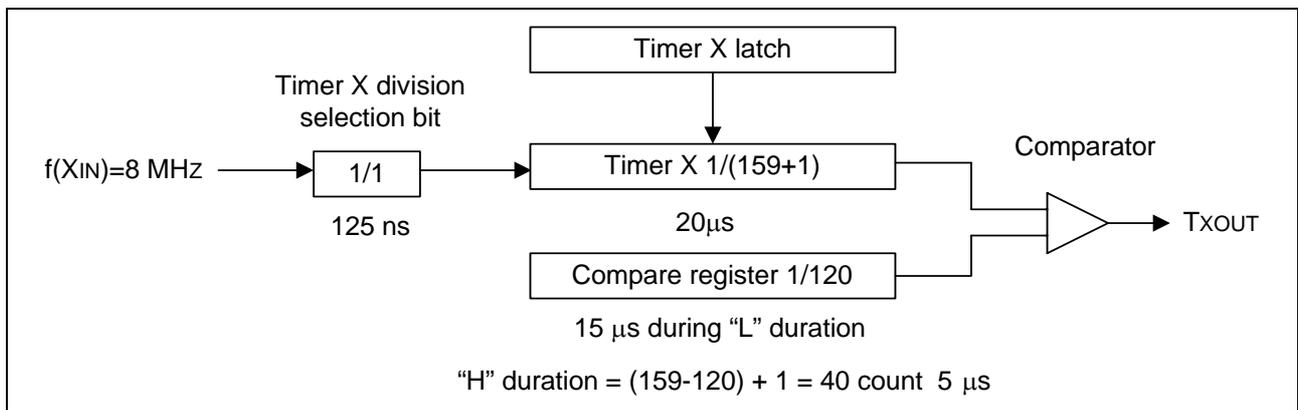
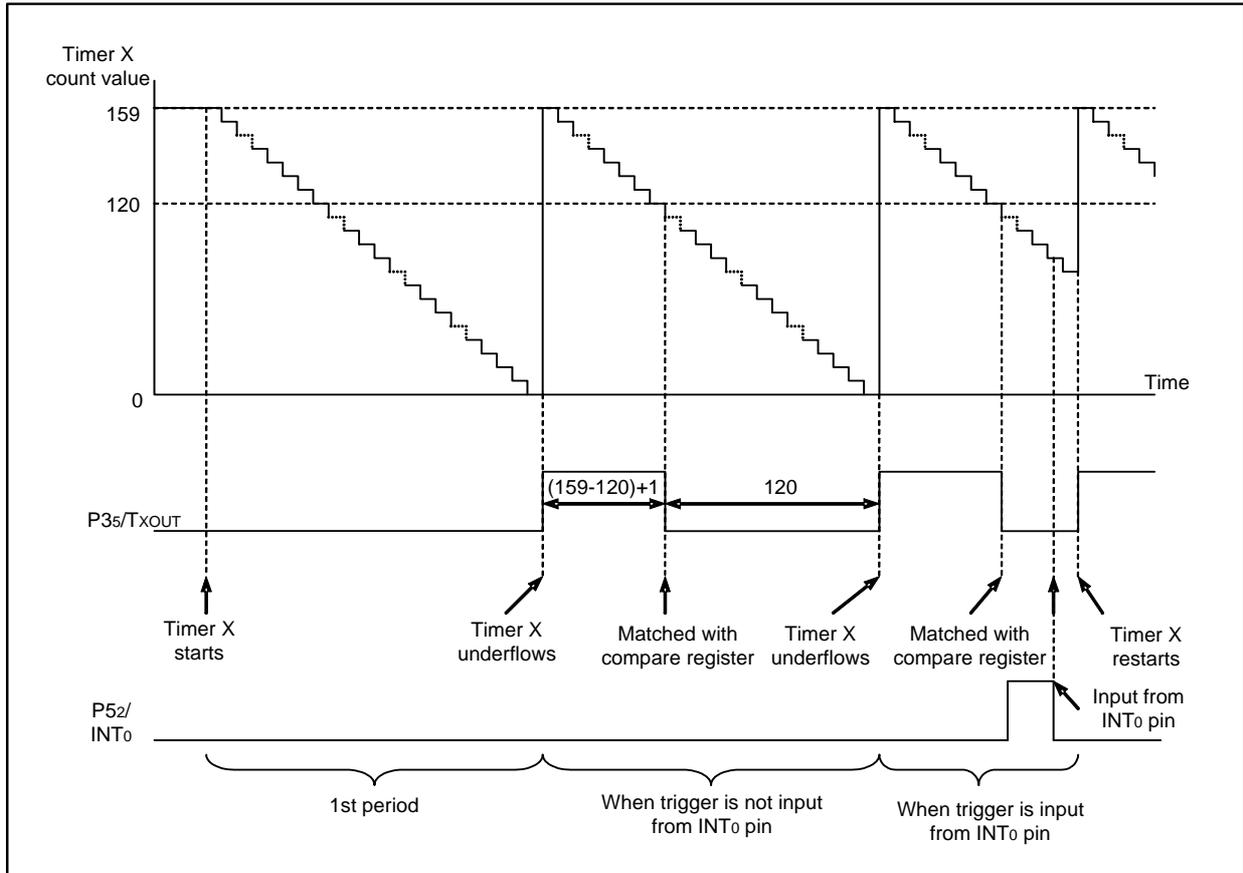
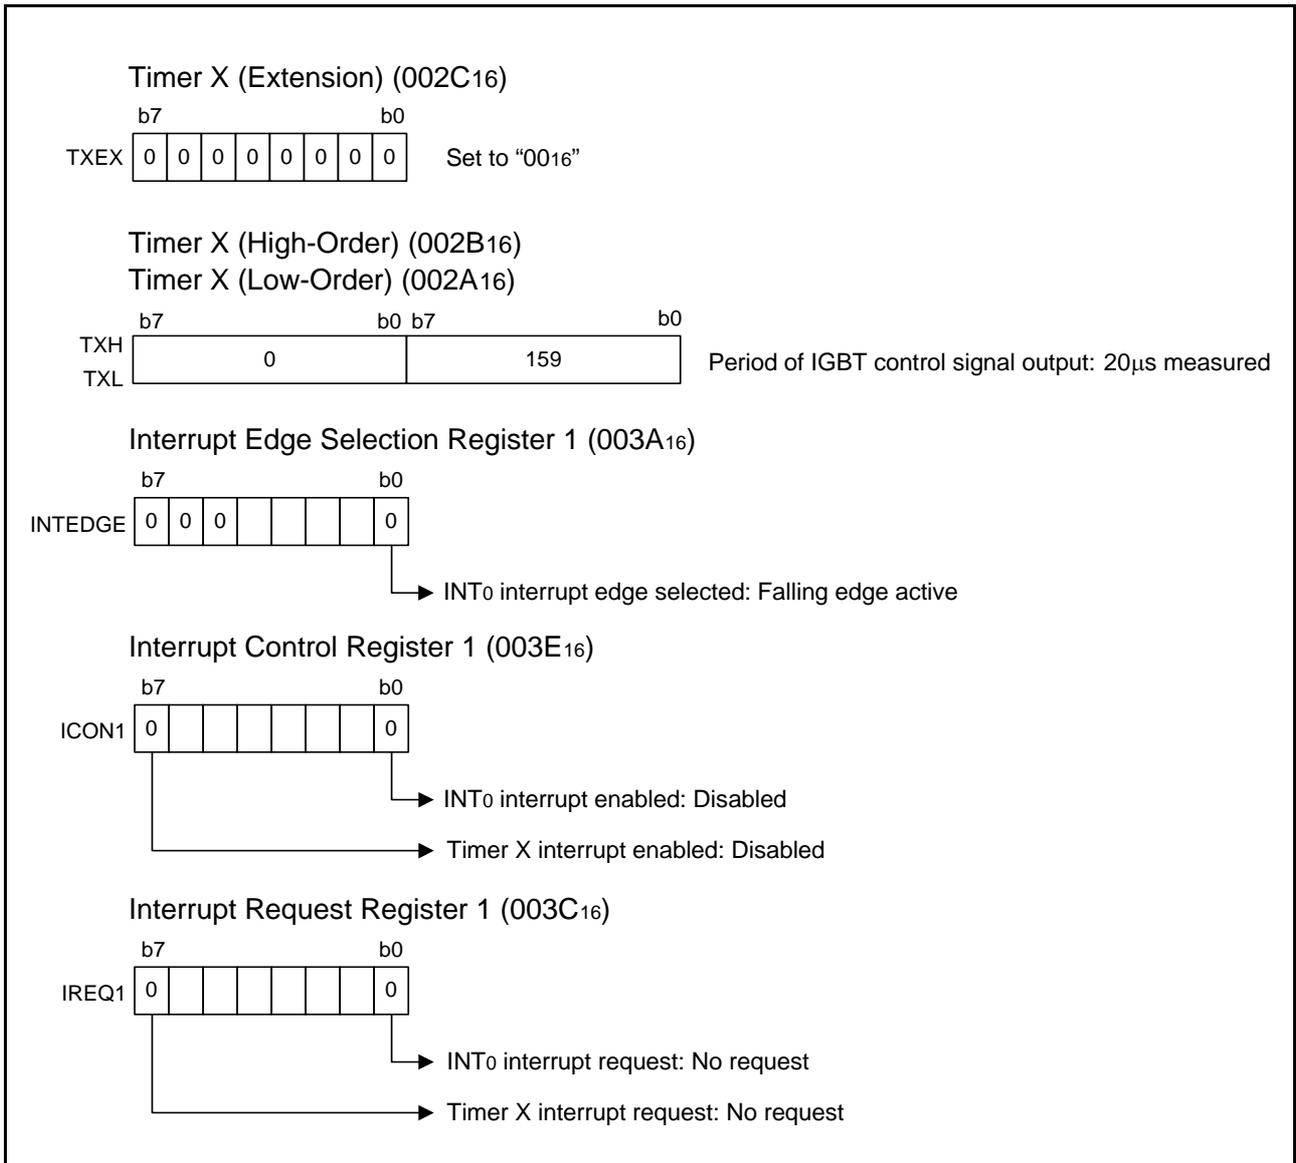
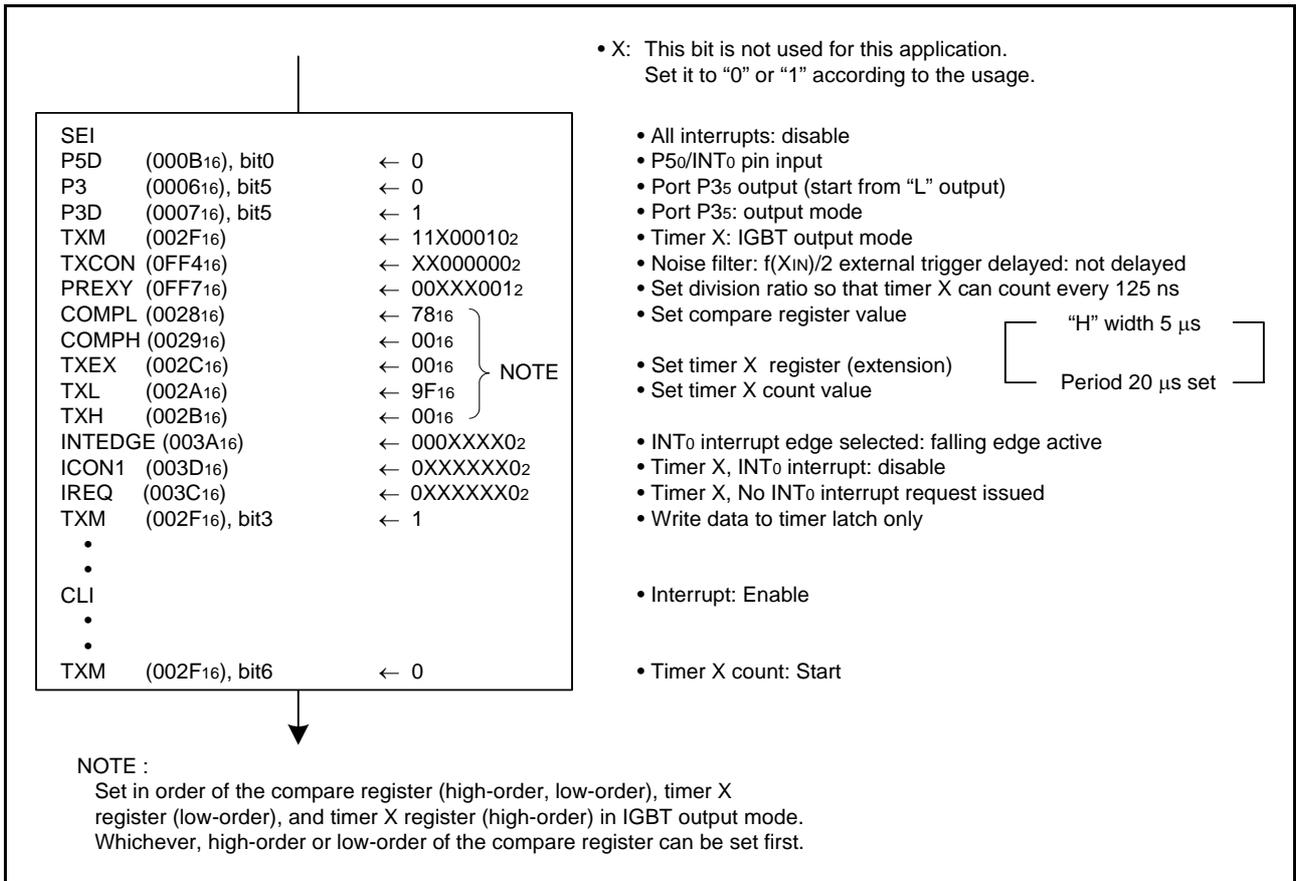

Figure 3.1 Timer Connection and Setting of Division Ratio
Figure 3.2 TxOUT Output Waveform
Figure 3.4 Setting of Related Registers (2)
Figure 3.5 Control Procedure
Figure 3.1 shows the Timer Connection and Setting of Division Ratio; Figure 3.2 shows the TXOUT Output Waveform; Figure 3.3 shows the Setting of Related Registers (1); Figure 3.4 shows the Setting of Related Registers (2) and Figure 3.5 shows the Control Procedure.